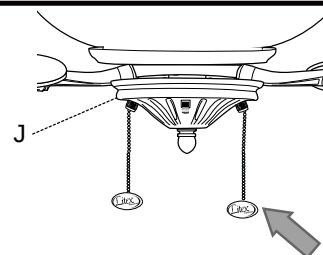

Fig. 1
1. The fan pull chain, labeled SPEED, has four positions. One pull is HIGH, two pulls is MEDIUM, three is LOW and four turns the fan OFF. [Fig. 1]